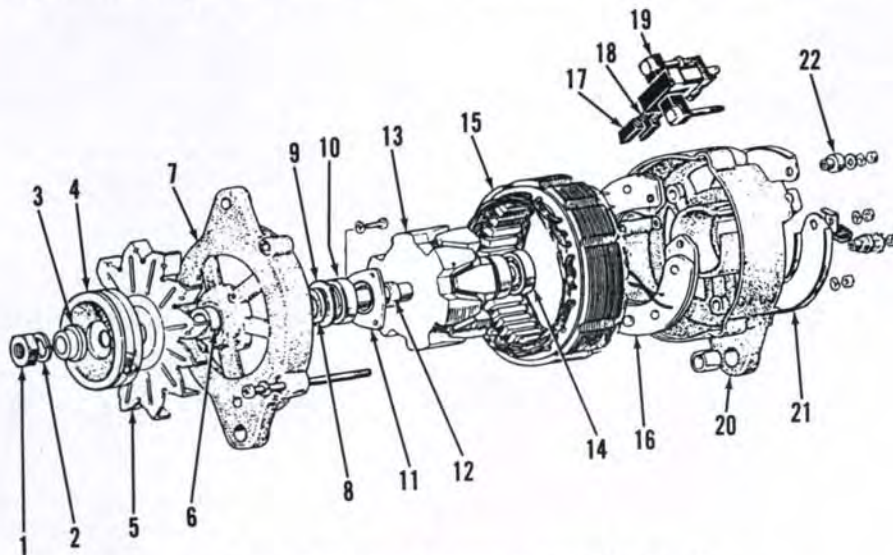

Fig. 77—Exploded view of alternator typical of type used.
84. OVERHAUL. Refer to Fig. 77 for an exploded view of alternator unit. Renew brushes if worn to scribe line and brush springs if heat damaged. Only the brushes and springs are available separately; if any other damage is present, renew alternator assembly.